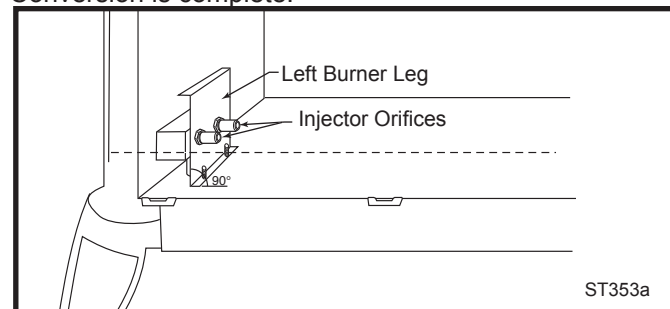

Fig. 63 Remove and replace injector orifices.
2. Undo the right and left latches at the top of the glass frame. (Page 32, Fig. 63)
NOTE: It is very critical to keep the left burner leg, which holds the injectors, at a 90° angle to the base. (Fig. 63) This keeps the orifices aligned with the tubes inside burner. Failure to do so could affect the flame appearance and performance of the unit.